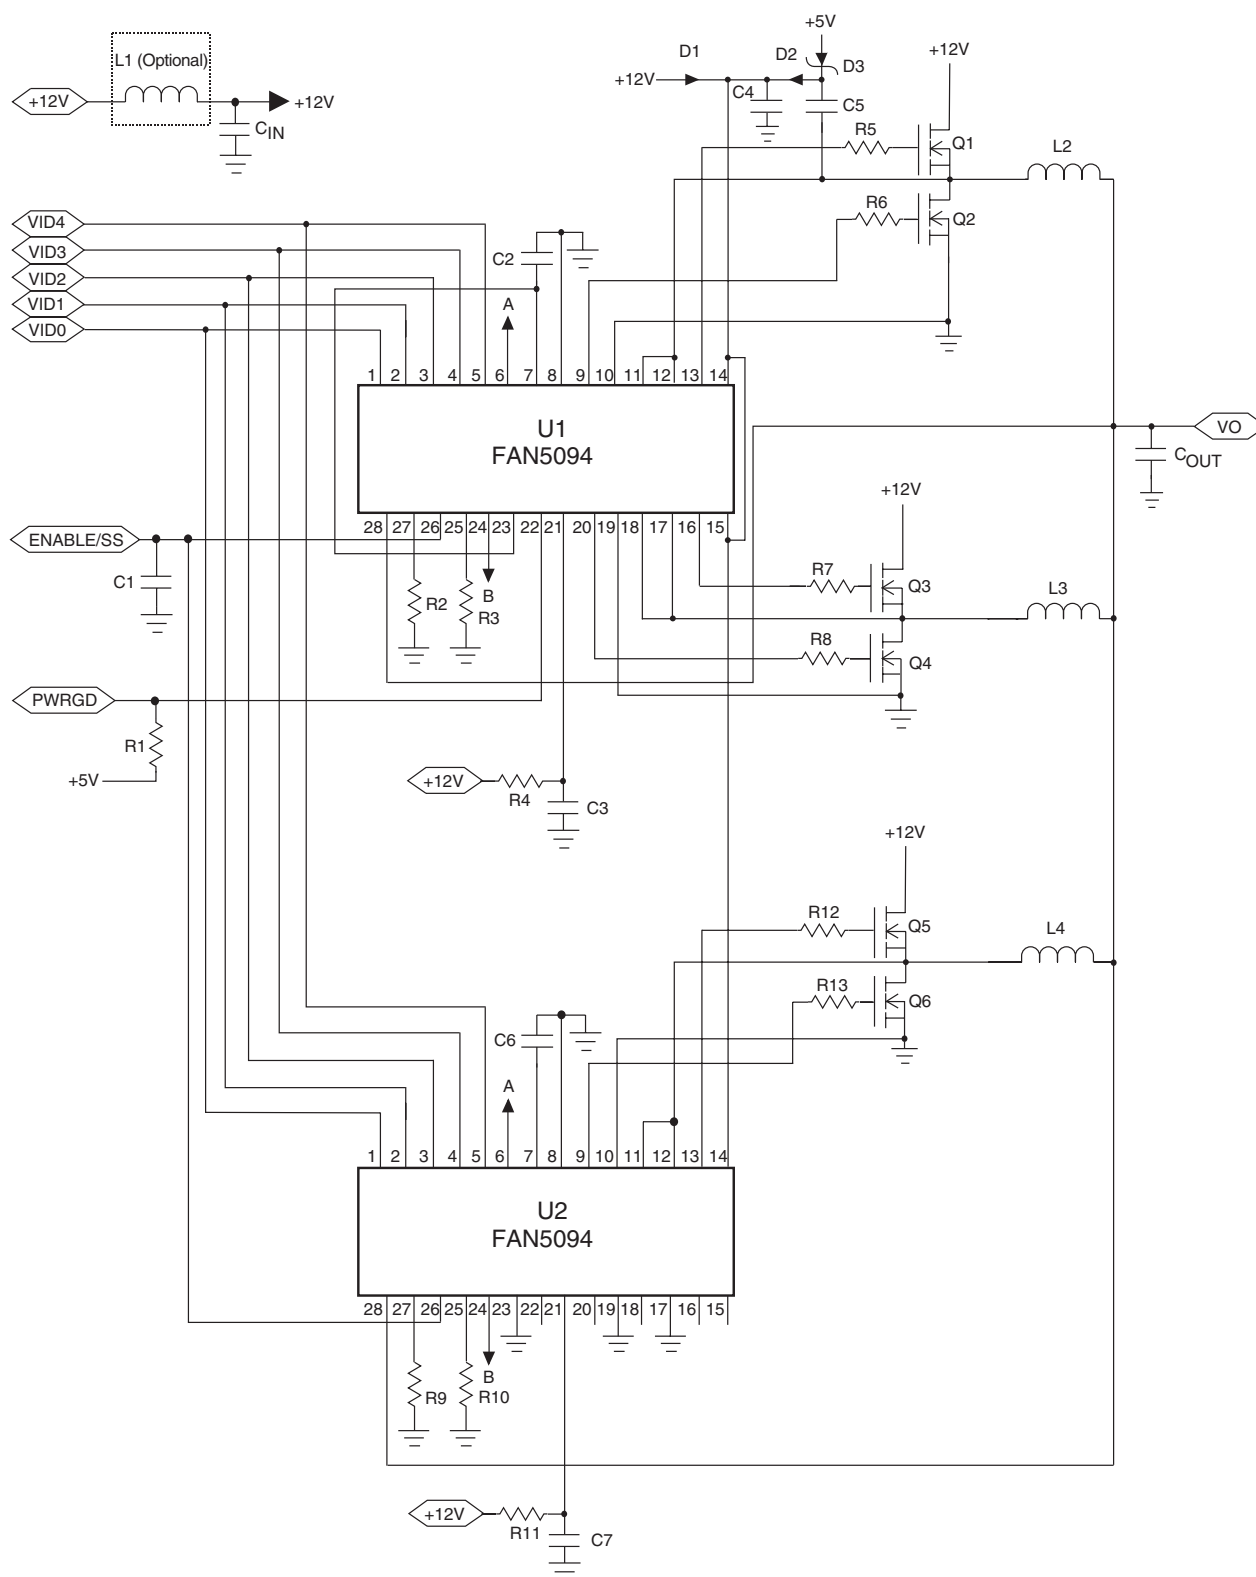

Figure 1. Three-Phase Application Circuit for 65A Willamette Processor
( $V_{CC} = 12V$ ,  $V_{OUT} = 1.500V$ , and  $T_A = +25^{\circ}C$  using circuit in Figure 1, unless otherwise noted.)
(VCC = 12V, and TA = +25°C using circuit in Figure 1 , unless otherwise noted.)
**Table 2. FAN5094 Application Bill of Materials for Figure 1**
The FAN5094 contains four high current output drivers that utilize MOSFETs in a push-pull configuration. The drivers for the high-side MOSFETs use the BOOT pin for input power and the SW pin for return. The drivers for the low-side MOSFETs use the VCC pin for input power and the PGND pin for return. Typically, the BOOT pin will use a charge pump as shown in Figures 1–2. Note that the BOOT and VCC pins are separated from the chip's internal power and ground, BYPASS and AGND, for switching noise immunity.